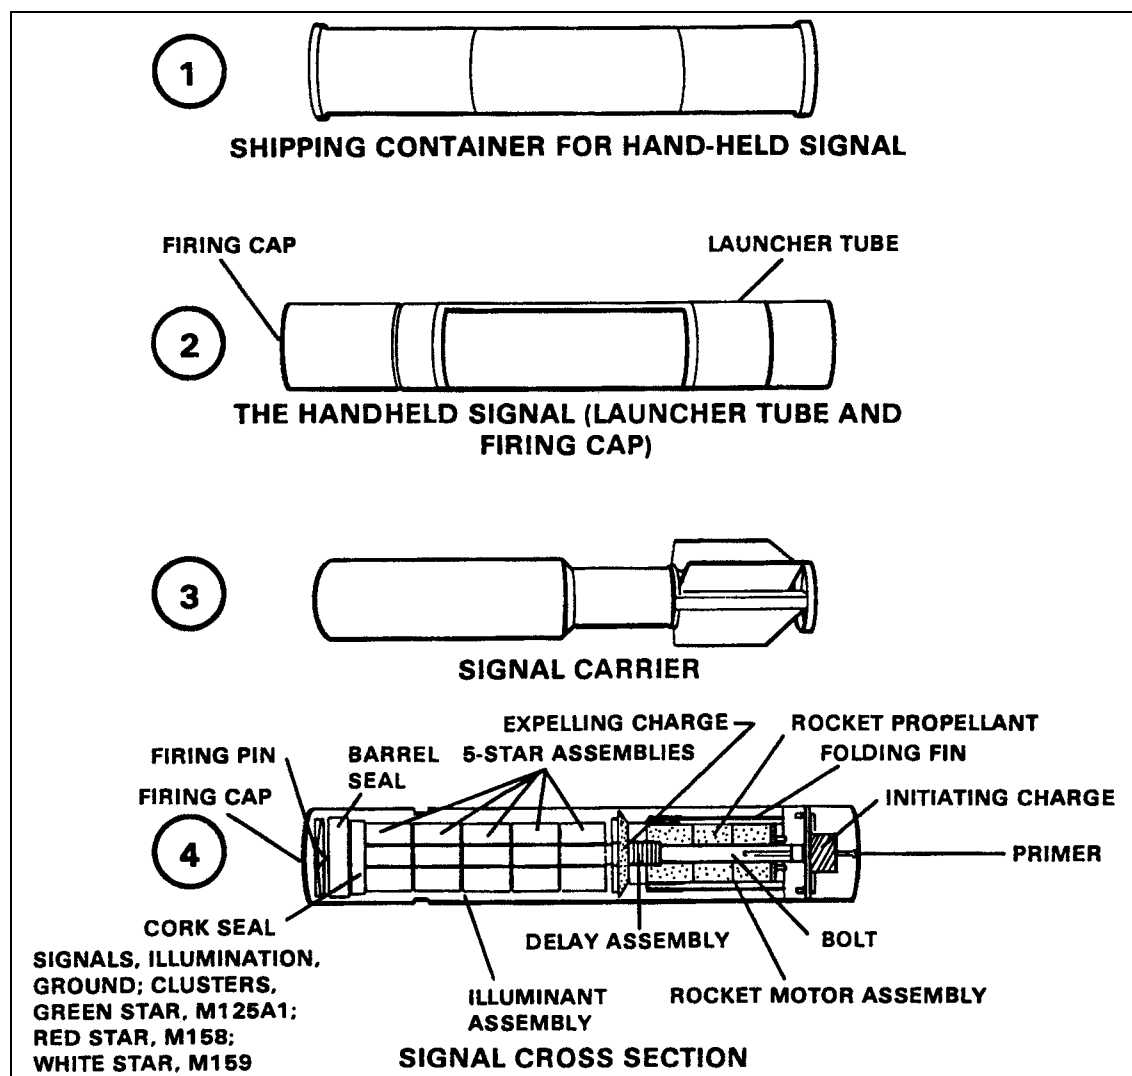

Figure 5-1. Ground pyrotechnic signals.
a. **Star Clusters.** Star clusters are used for signaling and illuminating. They are issued in an expendable launcher, which consists of a launching tube and firing cap (1, 2, 3, and 4, Figure 5-1). These signals produce a cluster of five free-falling pyrotechnic stars, clusters, and smoke parachutes.